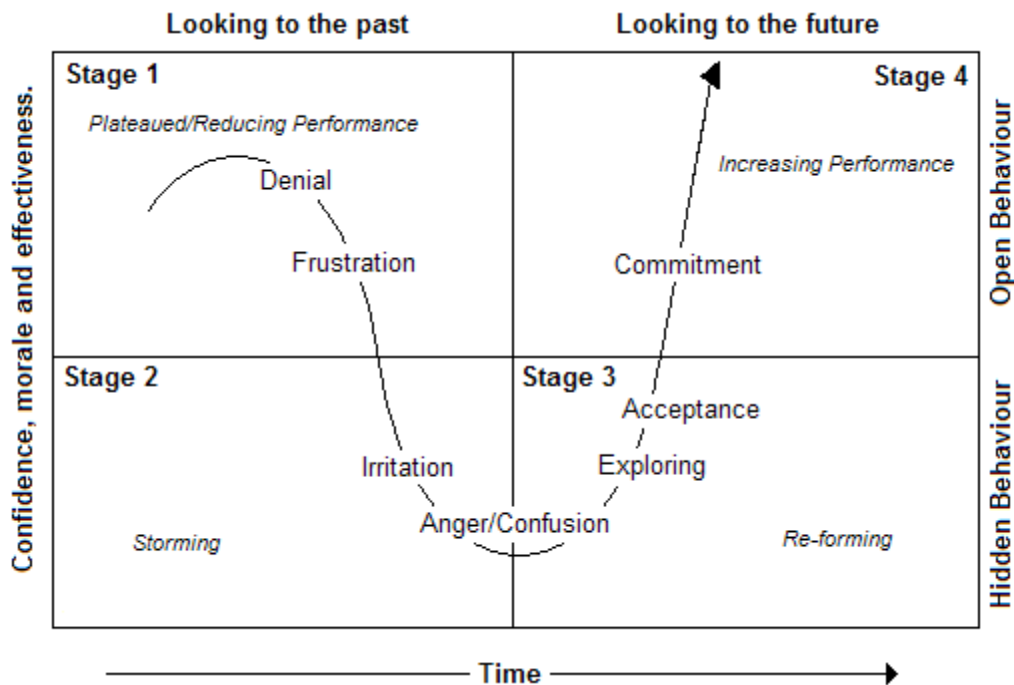

Figure 1: The Change Cycle
2. Describe the Change Cycle (see Figure 1 below).